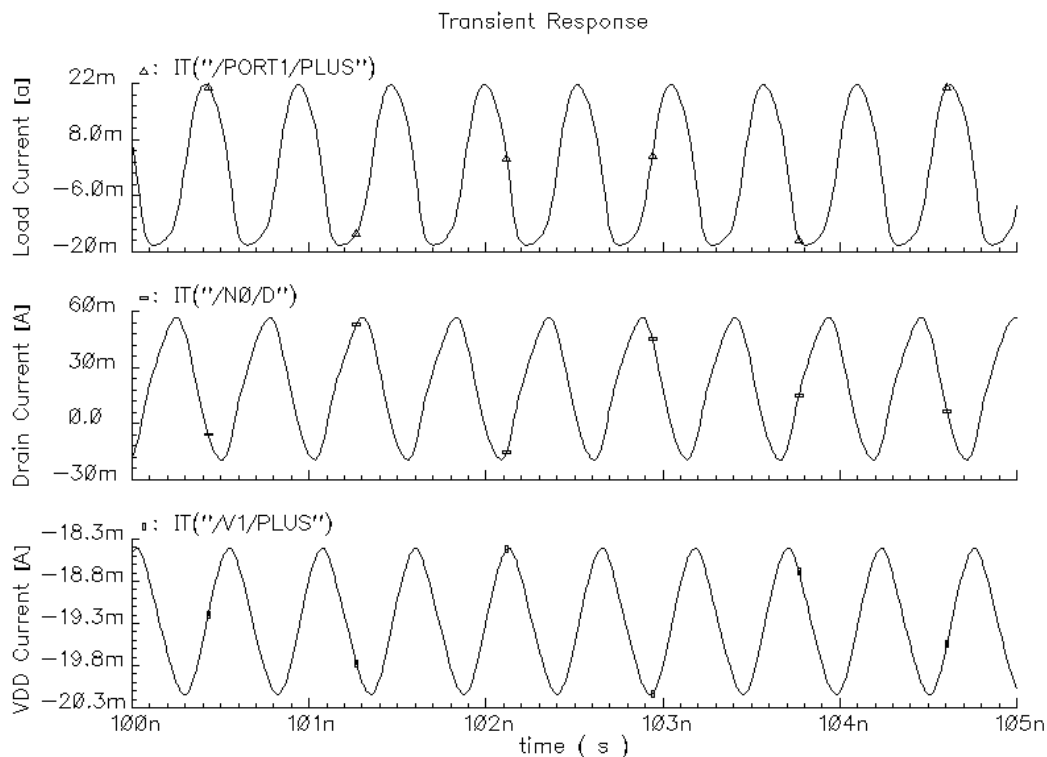

Figure 2. Current waveforms for the CMOS PA
The class of operation of a PA is determined by its current and voltage waveforms. A transient simulation is useful to analyze and verify the design of a power amplifier. Figure 2 shows the current signals at the load, the drain of the nmos transistor and the power supply. For this simulation $V_{DC}=900\text{mV}$ and $V_{IN}=500\text{mV}$.
- 2.1 Run a transient simulation. Plot the current waveforms shown in figure 2 and also the current flowing across CB. What is the operating mode of this PA? What is the power delivered to the load? Why there is a negative swing in the drain current? From these simulation results, what is the drain efficiency of the amplifier?